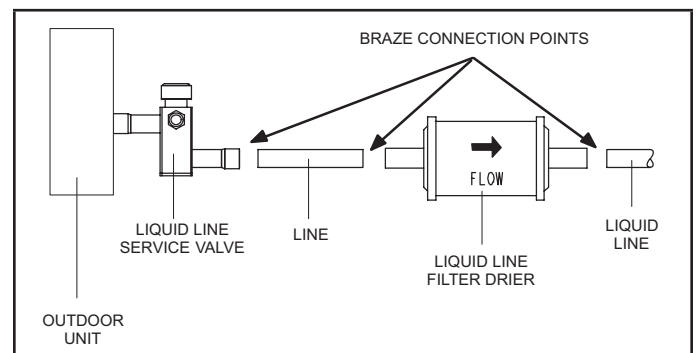

FIGURE 6. Typical Liquid Line Filter Drier Installation
- When possible, do not install the unit directly outside a window. Glass has a very high level of sound transmission. For proper placement of unit in relation to a window see the provided illustration in figure 6, detail A.
The filter drier (one is shipped with each ML17XC1 unit) must be field installed in the liquid line between the outdoor unit's liquid line service valve and the indoor coil's metering device as illustrated in figure 6. This filter drier must be installed to ensure a clean, moisture-free system. Failure to install the filter drier will void the warranty. A replacement filter drier is available from Lennox. See Brazing Connections on page for special procedures on brazing filter drier connections to the liquid line.